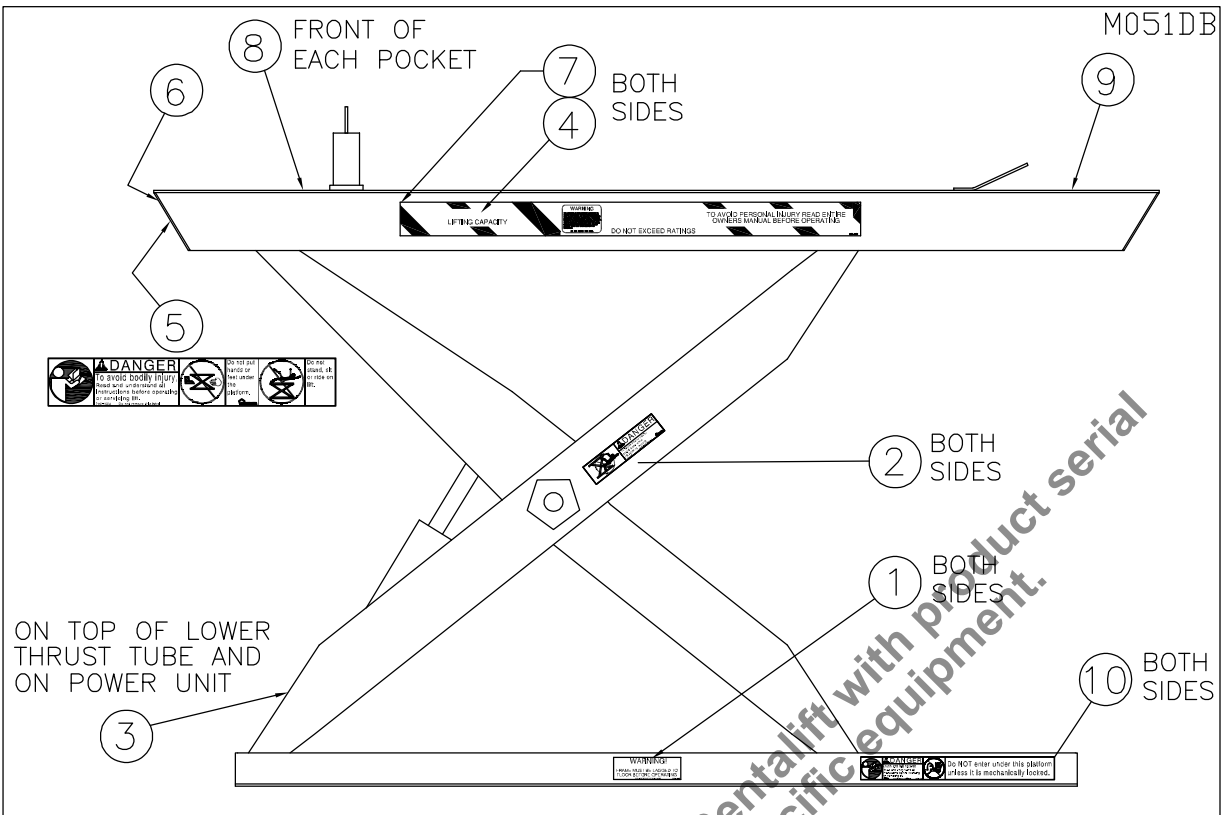

Figure 2: Safety Label and Decal Locations
1. NEVER EXCEED THE MAXIMUM RATED CAPACITY OF THE TABLE. (i.e., the maximum load for a 4000 lbs. rated unit is 4000 lb, evenly distributed, with the load center at the center of the platform.) Refer to the specification plate (See "Figure 2, Safety Label and Decal Locations" on page 3) for each lift table's particular ratings.